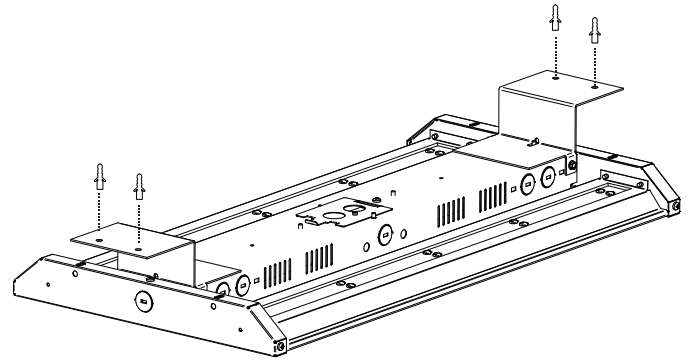

Figure 4
- Install the fixture with brackets onto the mounting surface with 4pcs M4 screws and expanded rubber stoppers. (Figure 4)